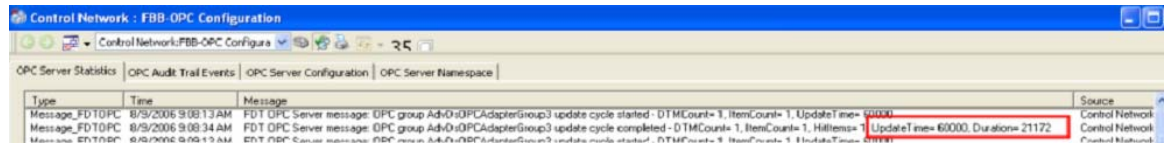

Figure 161. Cycle Time of the OPC Server PROFIBUS/HART
10. Wait according to the configured **Update Time**, till the **Duration Time** is displayed next to the **Update Time** entry as shown in Figure 161. If the **Duration Time** is less than the **Update Time**, the OPC Server is able to call all configured OPC items in one cycle. The OPC Server cycle time configured in **DIP HART Asset Monitor Data Source** aspect or **DIP PROFIBUS Asset Monitor Data Source** aspect (see above) shall be configured according the following rule: